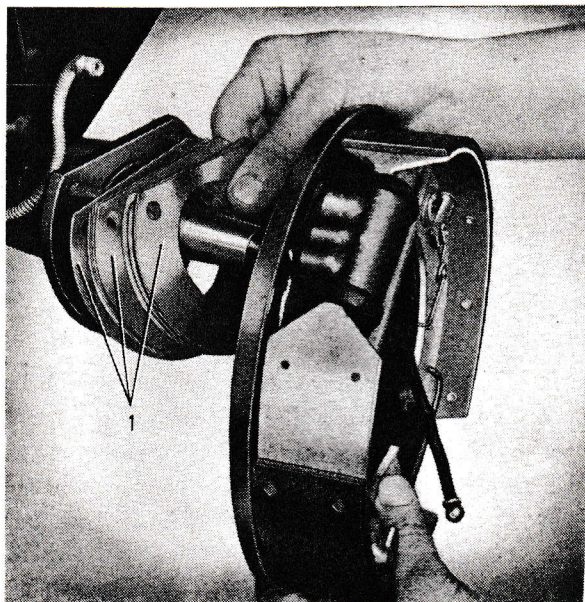

Fig. 31. Fitting the brake backing plate.
4. Fit the brake backing plates and the shims (16) as well as the retainer and felt seal (18), see Fig. 31.